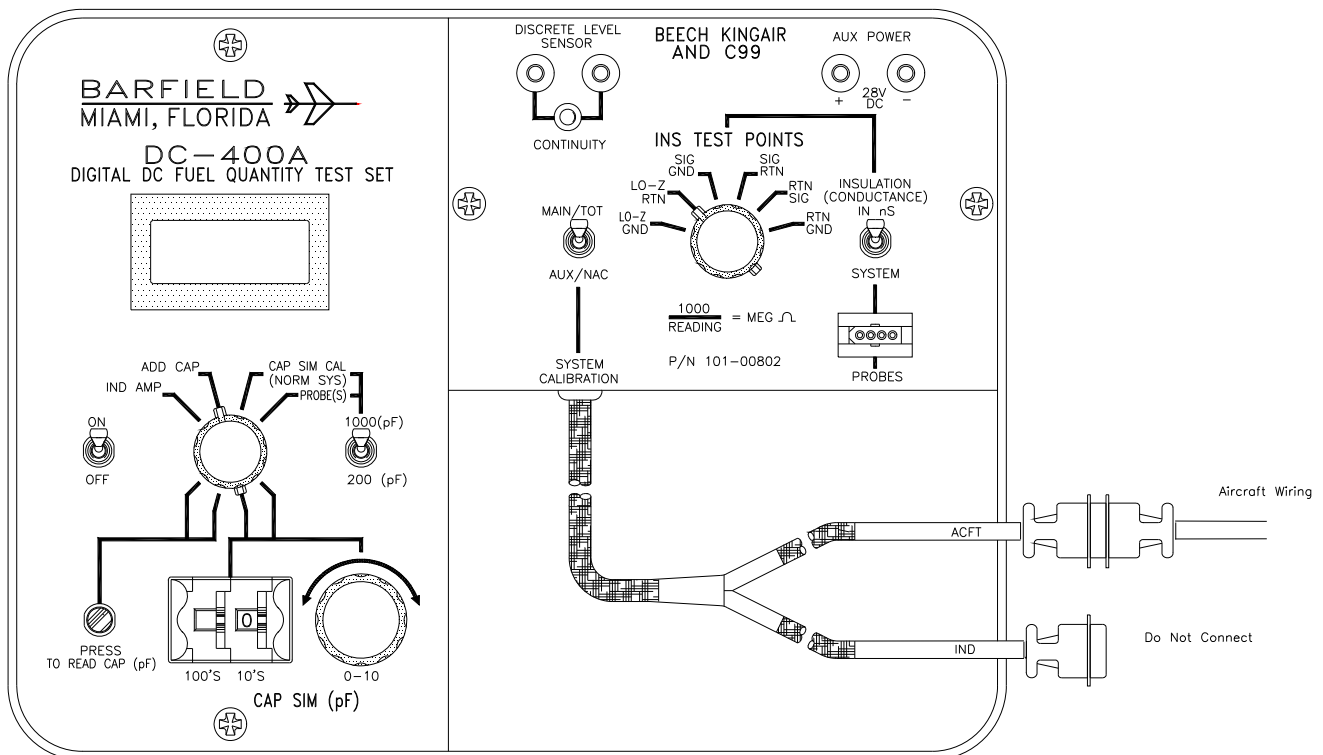

Figure 5 System Capacitance Test Connector Setup
- (1) Connect the test set as shown in Figures 5 and 6.